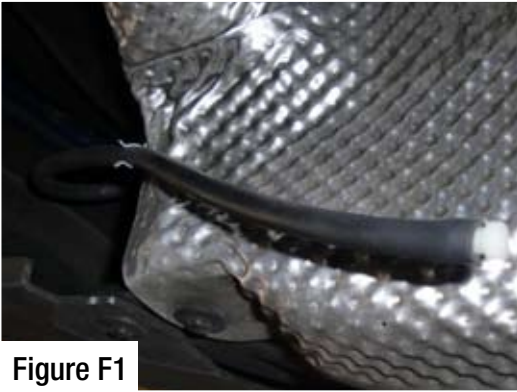

Figure F1
7. Disconnect the vacuum hose from the left exhaust muffler outlet actuator and plug the hose with the supplied vacuum plug and tuck the hose out of the way. (see fig. F1)